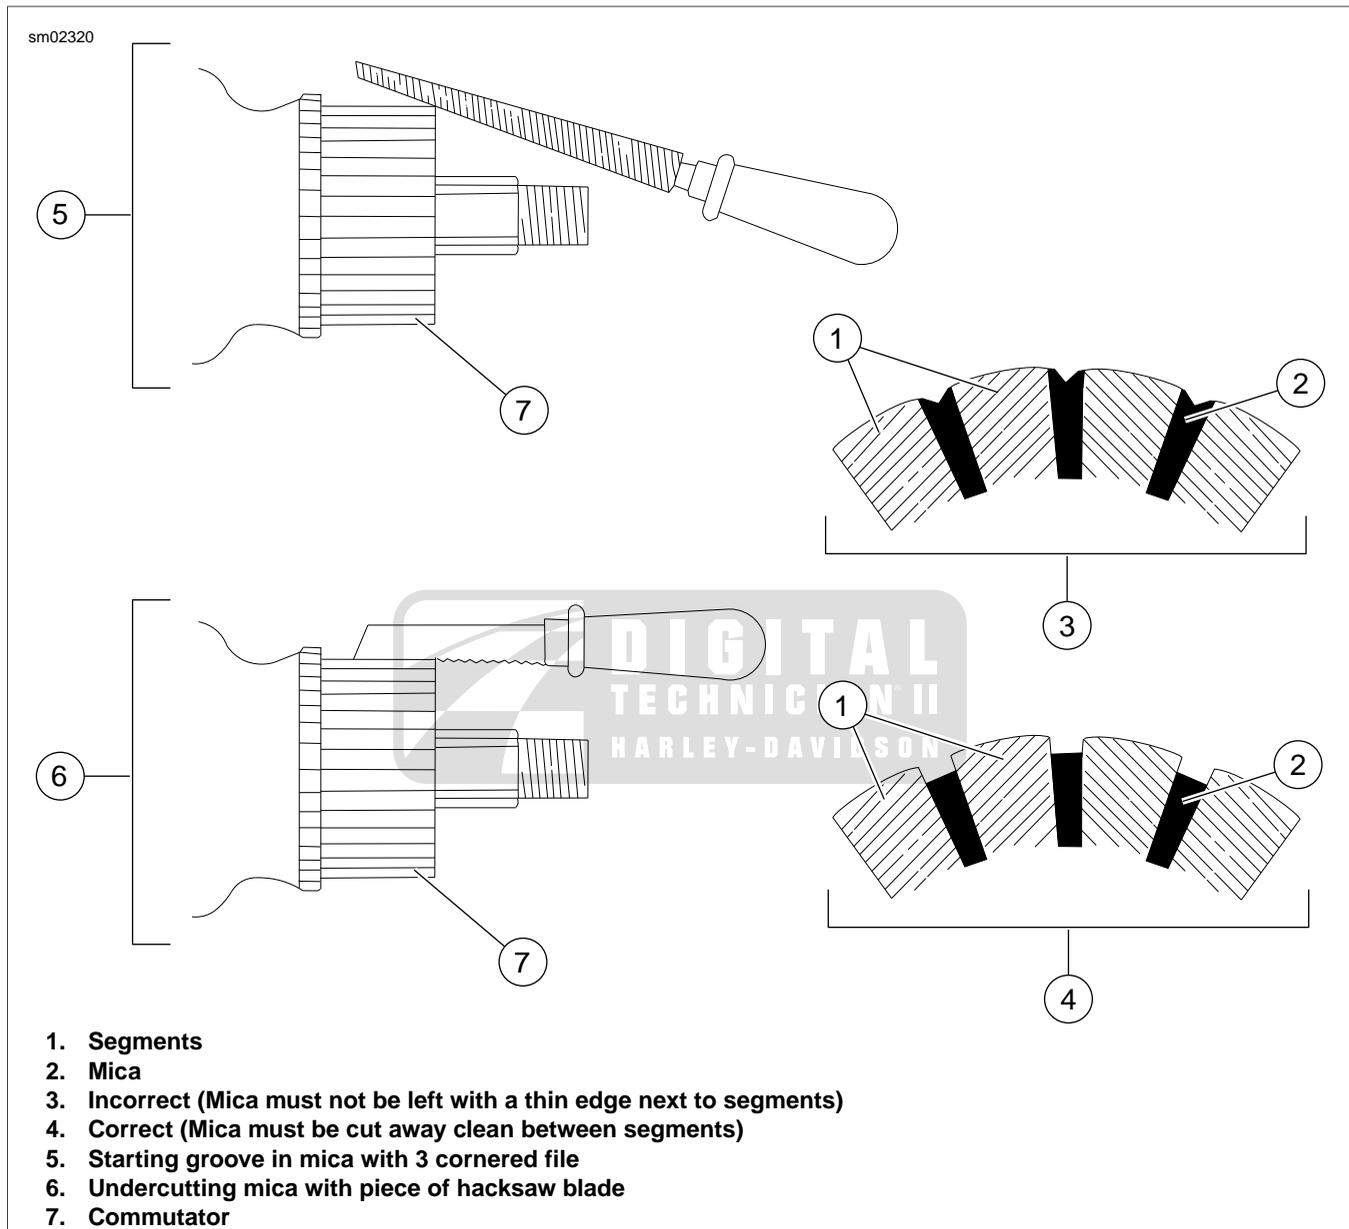

Figure 5-2. Undercutting Mica Separators
- See Figure 5-2. If an undercutting machine is not available, undercutting can be done satisfactorily using a thin hacksaw blade. After undercutting, lightly sand the armature with crocus cloth to remove any burrs.